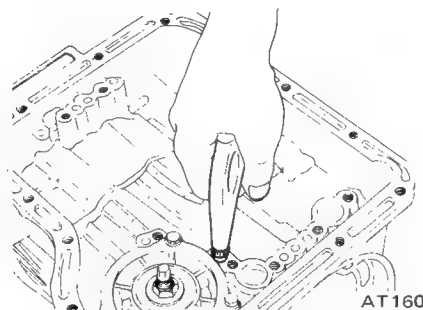

Fig. AT-93 Testing piston (Apply side)
3. Blow under pressure air from apply-side of piston to listen for definite piston operation as shown in Figure AT-93.